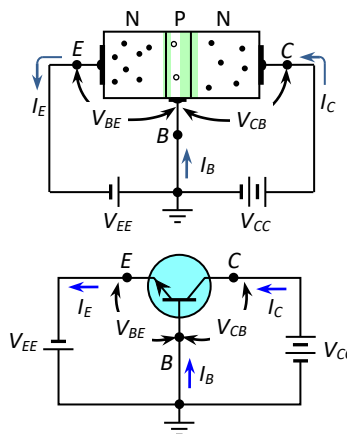

Fig.4-9: Voltage notations and current directions in an NPN
In a transistor there are three terminals: *emitter (E)*, *collector (C)*, and *base (B)*. When properly biased, these three terminals carry three currents and potential differences are developed across them. As various types of voltage differences and currents are used to describe the performance and output of NPN and PNP transistor in different types of circuit, it would be wise to describe the current and voltage notations used for transistors. Fig.4-9 shows the current direction and the voltages used in an NPN transistor in common base configuration. Look at the current direction. The emitter current I_E will always be in the same direction as the arrow of the transistor symbol. In case of NPN transistor it will always be outward from the transistor irrespective of the circuit configuration. We know, $I_E = I_C + I_B$. So the direction of collector current I_C , and base current, I_B will be just opposite to that of I_E . In case of NPN transistor, they will flow into the transistor, no matter in what circuit the transistor is used.
To represent the potential difference (or simply voltage) across various nodes/terminals of a transistor circuit, **double subscript notations** are used. In this notation, the voltage difference is represented by V with the points across which V is measured is used as subscripts. The assumed higher potential point will be written first and then the lower potential or reference point. For example, in Fig.4-9, V_{BE} is used to denote the voltage difference between the base terminal (B) and the emitter terminal (E). Here, base has been assumed to be at higher potential than emitter, or the polarity of V_{BE} is assumed to be +ve at base and -ve at emitter. If the measured or calculated value of V_{BE} is positive, it matches the assumption, i.e., the base is at higher potential than the emitter. But, if the measured or the calculated value of V_{BE} is negative, it means that the base is at lower potential than the emitter. Similarly, V_{CB} represents the potential difference between the collector and the base. Here, collector is assumed to be at higher potential than the base. The assumed polarity of V_{BE} and V_{CB} ensure the forward bias of B-E junction and the reverse bias of the B-C junction.
The batteries (voltage sources) or power supplies are normally connected to different terminals of a transistor with respect to ground, i.e., one terminals of the batteries are connected to the ground. For example, in Fig.4-9, the negative terminal of a small battery is connected to the emitter and the positive terminal is connected to ground. Here, also the letter G is not used, but the terminal to which it is supplying power is written twice. So for the battery connected to the emitter is represented by V_{EE} . Similarly, the battery connected to the collector is denoted by V_{CC} . If a battery is used to bias the base it will be represented by V_{BB} .